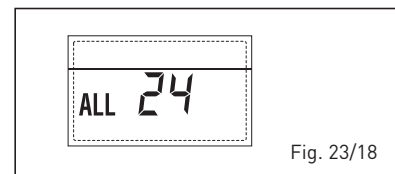

Fig. 23/18
– **ANOMALIA Sonda FERVIDOR SOLAR (S2) “ALL 25”** (fig. 23/19)